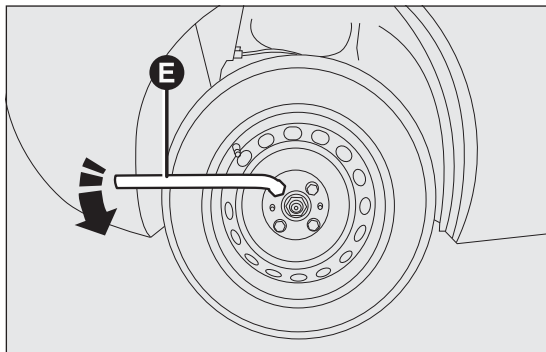

fig. 98
- ☐ loosen the retaining bolts for the wheel to be changed by about one turn using the spanner provided E fig. 98;